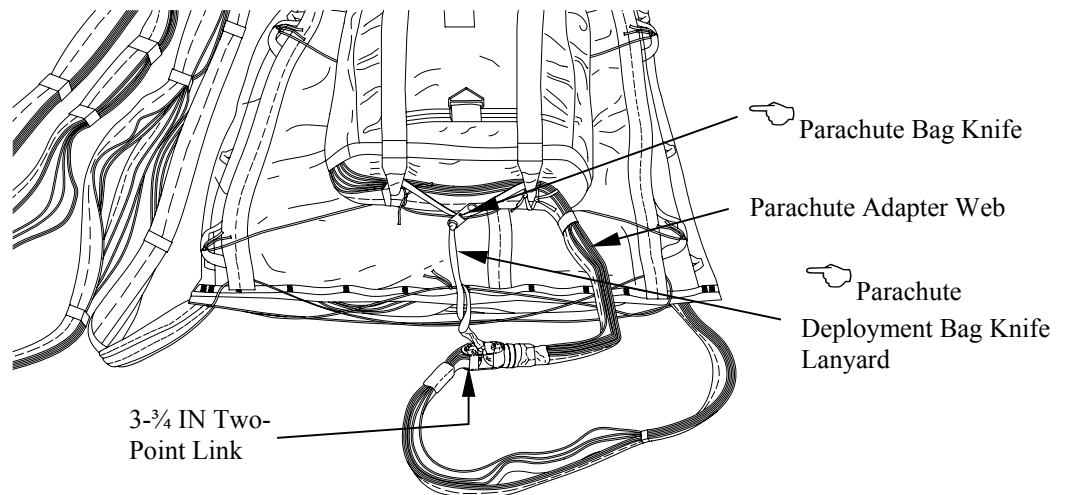

Figure 14. Extraction Parachute Attached to Extraction Line.
- c. Secure the ends of tie with three alternating half hitches and overhand knot in running ends. Trim off excess and tape (figure 14).